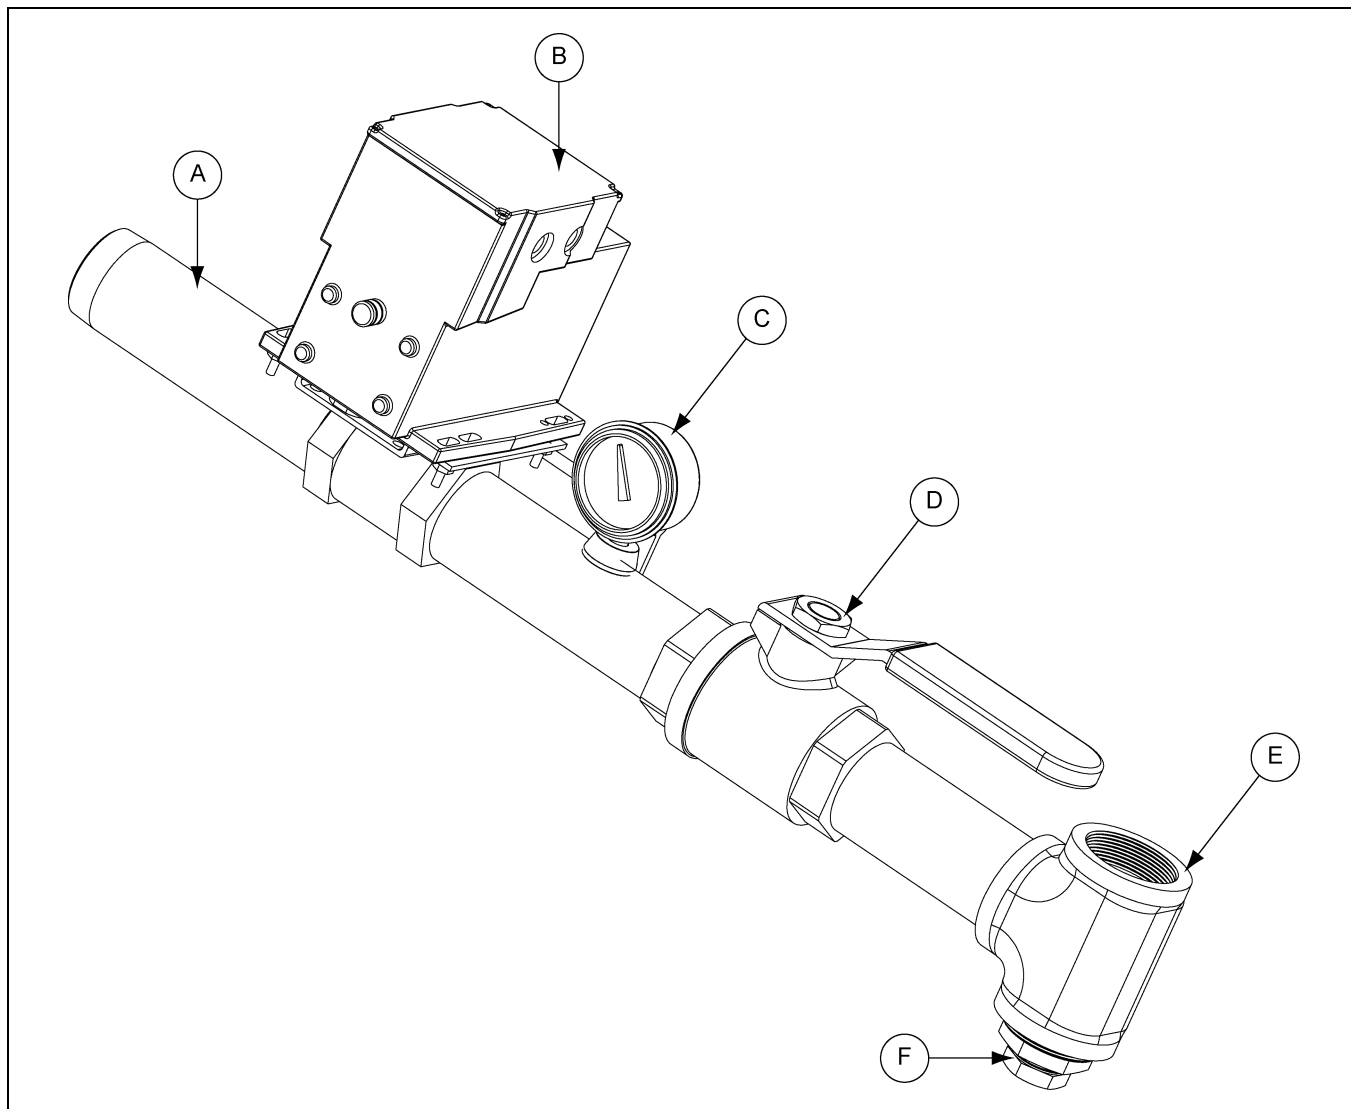

Figure 71 Modulator Section (Modulating motor not shown.)
- h. When the plenum reaches set point, adjust the MINIMUM setting on the modulating valve *(See Figure 71 on Page 59)* to the required setting. *(See Table on Page 27.)*